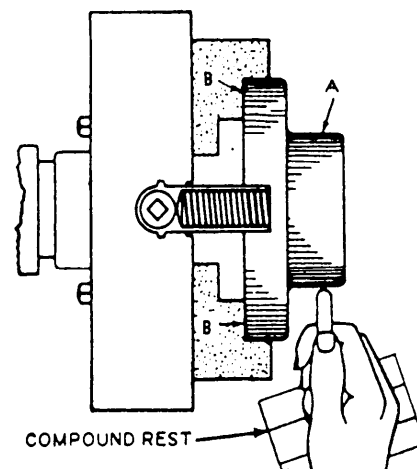

Figure 6-51.—Work mounted in a four-jaw independent chuck.
Figure 6-51 shows a rough casting mounted in a four-jaw independent lathe chuck on the spindle of the lathe. Before truing the work, determine which part you wish to turn true. To mount a rough casting in the chuck, proceed as follows:
4. Revolve the spindle slowly, and with a piece of chalk mark the high spot (A in fig. 6-51) on the work while it is revolving. Steady your hand on the toolpost while holding the chalk.
7. When the work is running true in the chuck, tighten the jaws gradually, working the jaws in pairs as described previously, until all four jaws clamp the work tightly. Be sure that the back of the work rests flat against the inside face of the chuck, or against the faces of the jaw stops (B in figure 6-51).